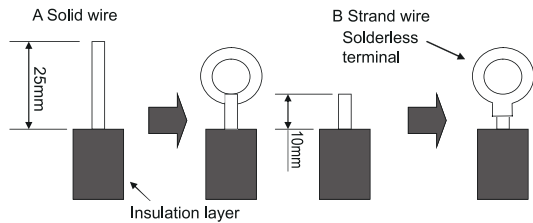

Fig.33
- (1). For solid core wiring (Fig.33)
- (2). For strand wiring (Fig.33)